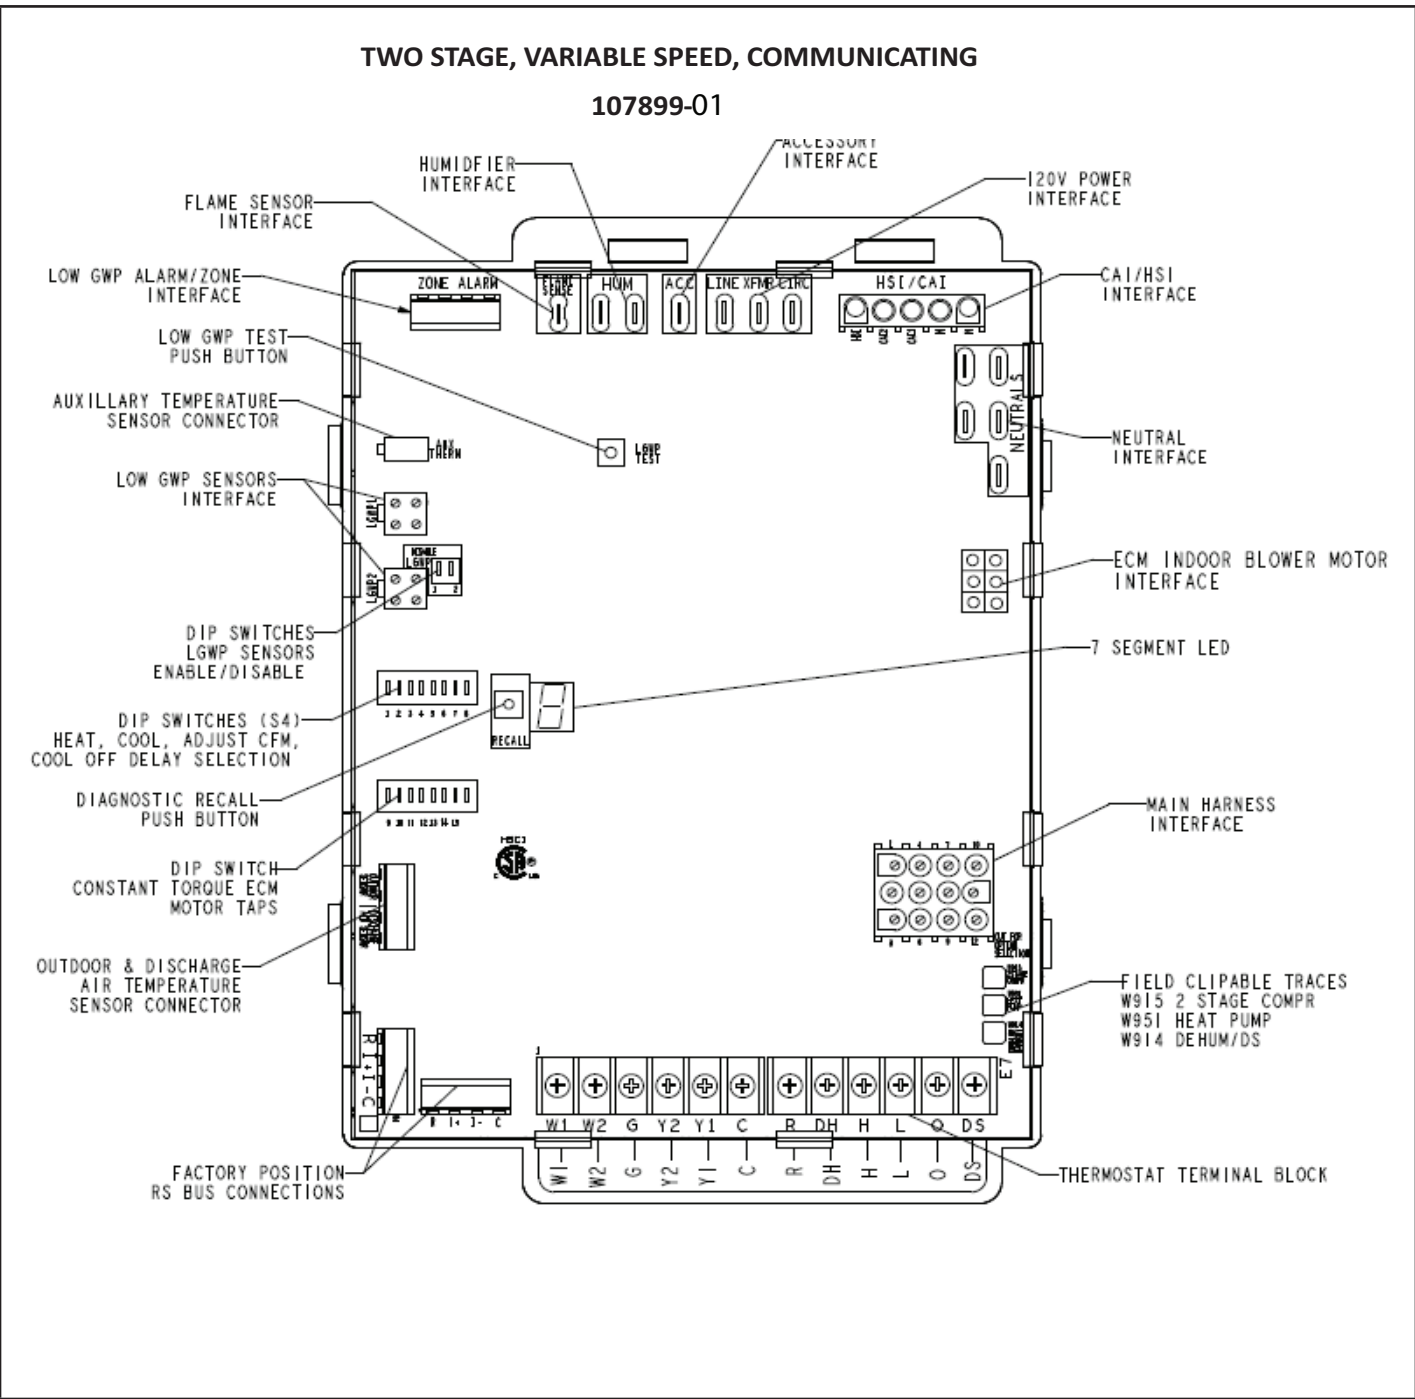

FIGURE 34
- 7 - One line voltage "ACC" 1/4" spade terminal is provided on the furnace integrated control. Any electronic air cleaner or other accessory rated up to one amp can be connected to this terminal with the neutral leg of the circuit being connected to the one of the provided neutral terminals. See FIGURE 34 for control configuration. This terminal is energized when the indoor blower is operating.
Diagnostic LED (FIGURE 34)
Diagnostic Push Button (FIGURE 34)